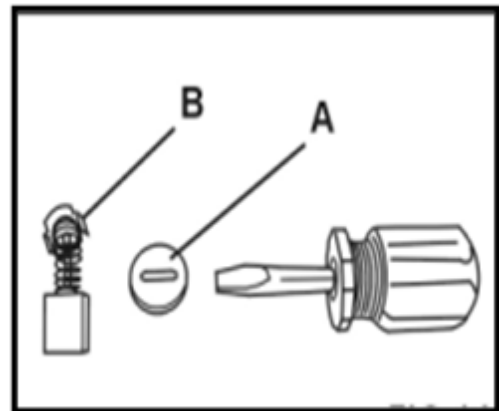

Fig.21
Your saw's carbon motor brushes must be replaced when they are worn down to 6 mm or less in length from the brush spring. Be sure brushes are clean and slide freely in the brush holder. Always replace both carbon brushes at the same time. Never replace just one of the brushes. Use only approved replacement brushes. Use a flat-blade screwdriver to remove the brush holder cap (A) and remove the worn carbon brushes (B). Insert new carbon brushes and re-secure the brush holder cap. Fig.21